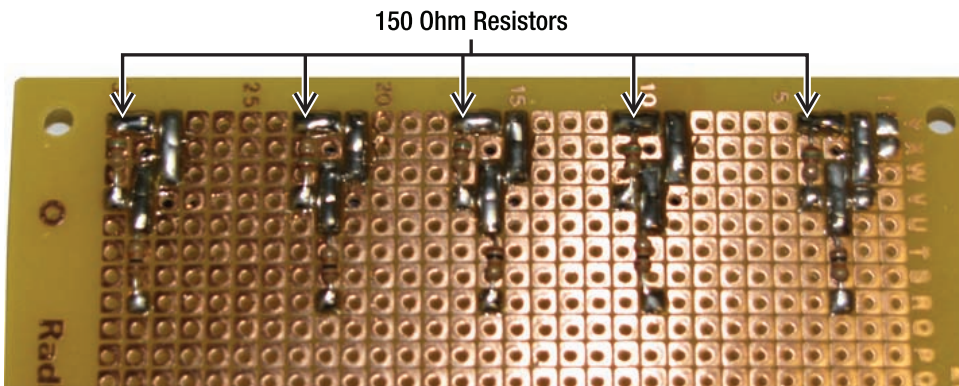

Figure 4-12. Install the (5) 150 ohm resistors from the Emitter's Cathode pin to Ground.
5. Add 150 ohm current-limiting resistors for the IR Emitter LEDs. Supplying 5v through the 150-ohm resistor enables 33mA to go to each IR Emitter, which is just below the maximum current rating. Place each 150-ohm current limiting resistor from the cathode pin of each IR emitter to Ground as shown in Figure 4-12.